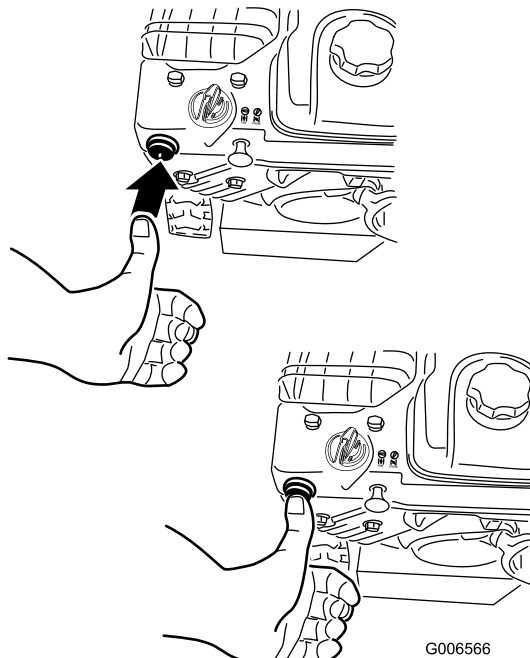

Figure 27
4. Firmly push in the primer with your thumb 2 times (15°F or -9°C or above) or 4 times (below 15°F or -9°C), holding the primer in for a second before releasing it each time (Figure 27).